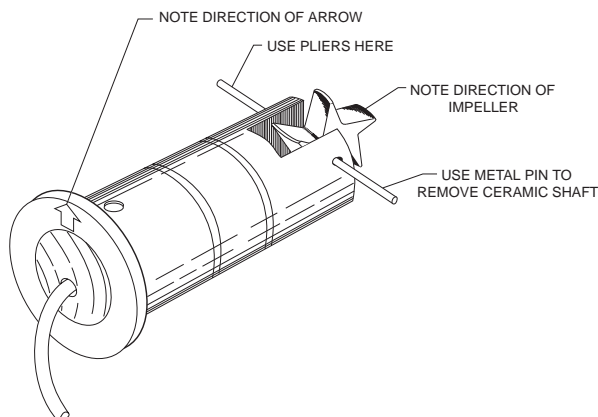

Figure 4
- 7) Refer to figure 4. To reinstall, position the impeller in the cavity oriented as in step 4 so that the impeller blades point into the flow direction and toward the small alignment hole located beside one of the sighting holes on metal sensors.